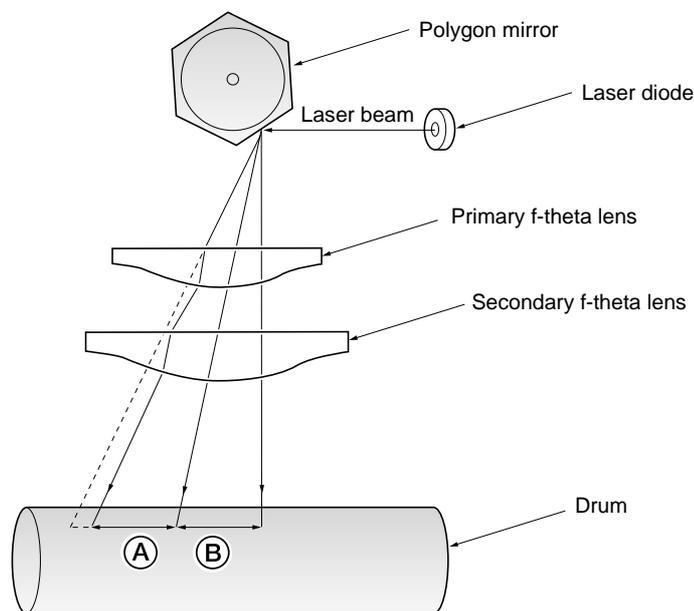

Figure 4-1-7 F-theta lens
| ⑤ Primary f-theta lens | See figure 4-1-7 below. |
| ⑥ Secondary f-theta lens | The primary (above) and secondary f-theta lenses equalize focusing distortion on the area on the drum closer to the edge. The effective length of line (A), (B) in the figure below) the laser beam draws on the drum becomes longer as the laser beam hits closer to the drum edge. In the figure 4-1-7 below, distances represented by (A) and (B) are not the same ($A > B$) until the f-theta lenses are provided between the polygon mirror and the drum ($A = B$). |